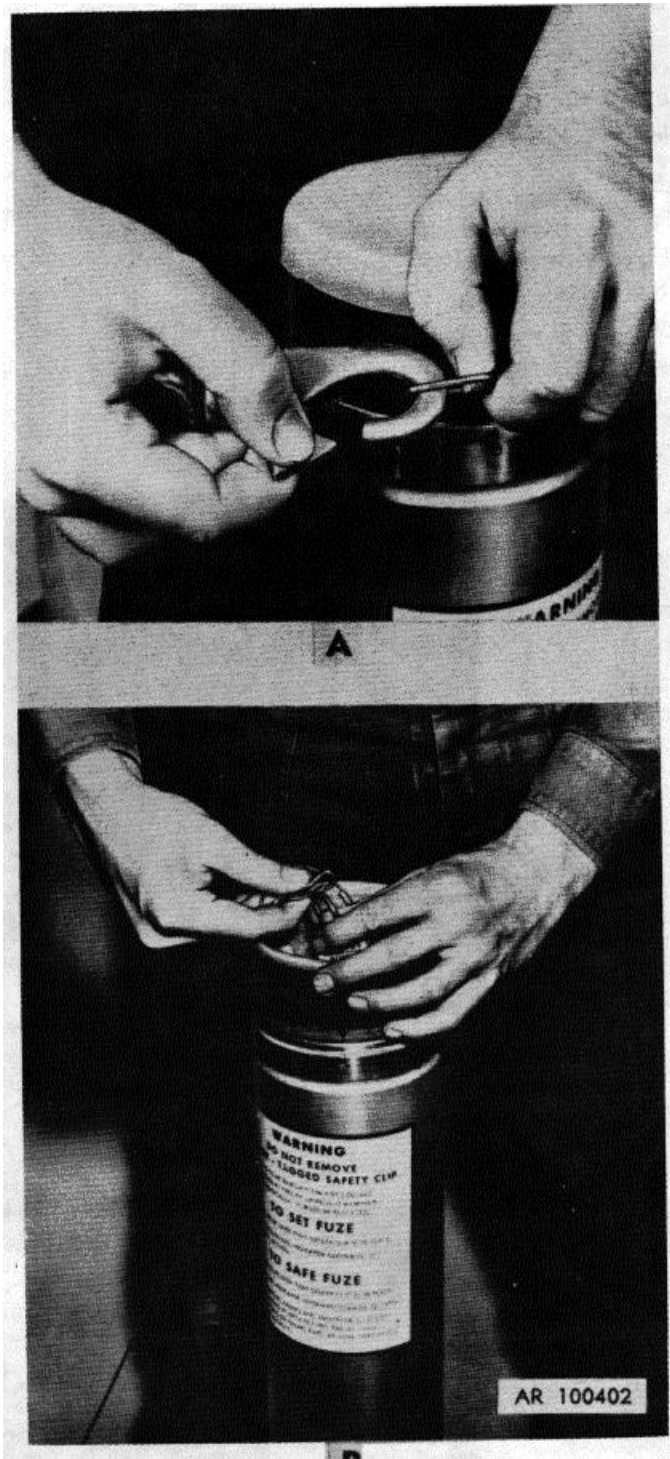
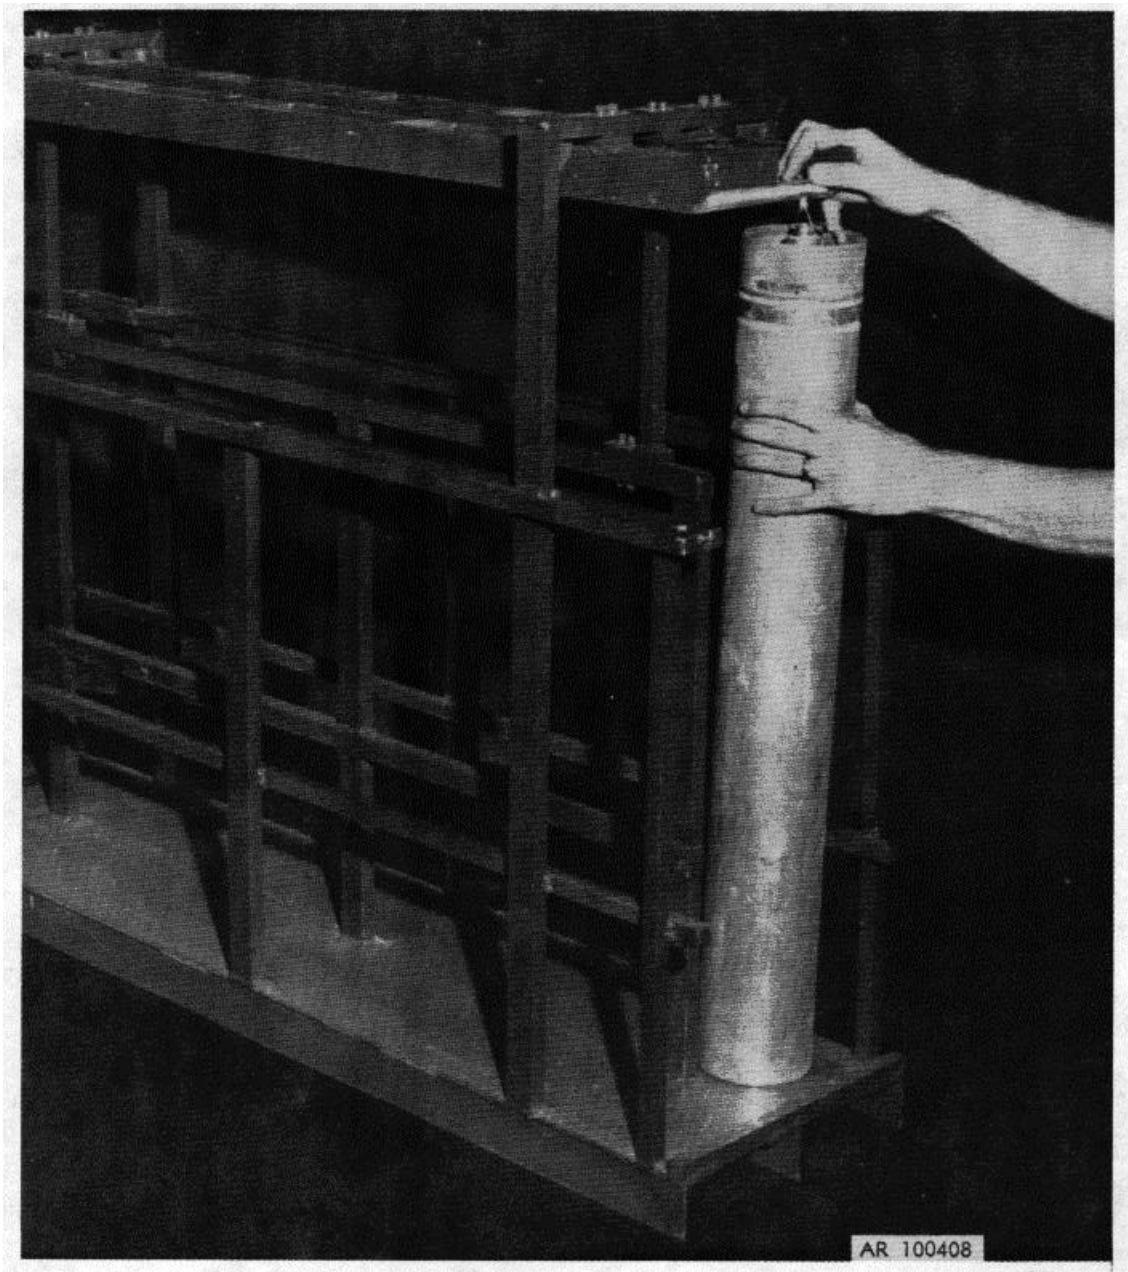

Figure 2-3. Preparing fuze for launch.
Figure 2-9. Loading flare on dispenser assembly.
- (1) Remove tape from container, lift top half, and remove flares.
- (2) Remove plastic cap from fuze end of flare.
(3) Assure that safety pin is in place and that ejection dial indicator is set on SAFE.
(4) Visually inspect flare for damage. Contact authorized disposal personnel for disposal of damaged flares.
(5) Using forefinger of right hand and thumb of left hand, set ejection dial indicator (fig. 2-3) by turning clockwise to desired setting (table 2-1). A spring-loaded detent holds the ejector dial indicator at each setting and aids in setting fuze in darkness, since engagement of the detent can easily be felt.
(6) Remove loading gate of dispenser assembly by releasing latch and lifting gate off support pins.
(7) Load flare (fig. 2-9) into dispenser assembly by putting pull cable assembly in overhead track and pushing flare along base tray until it is against dispensing gate.